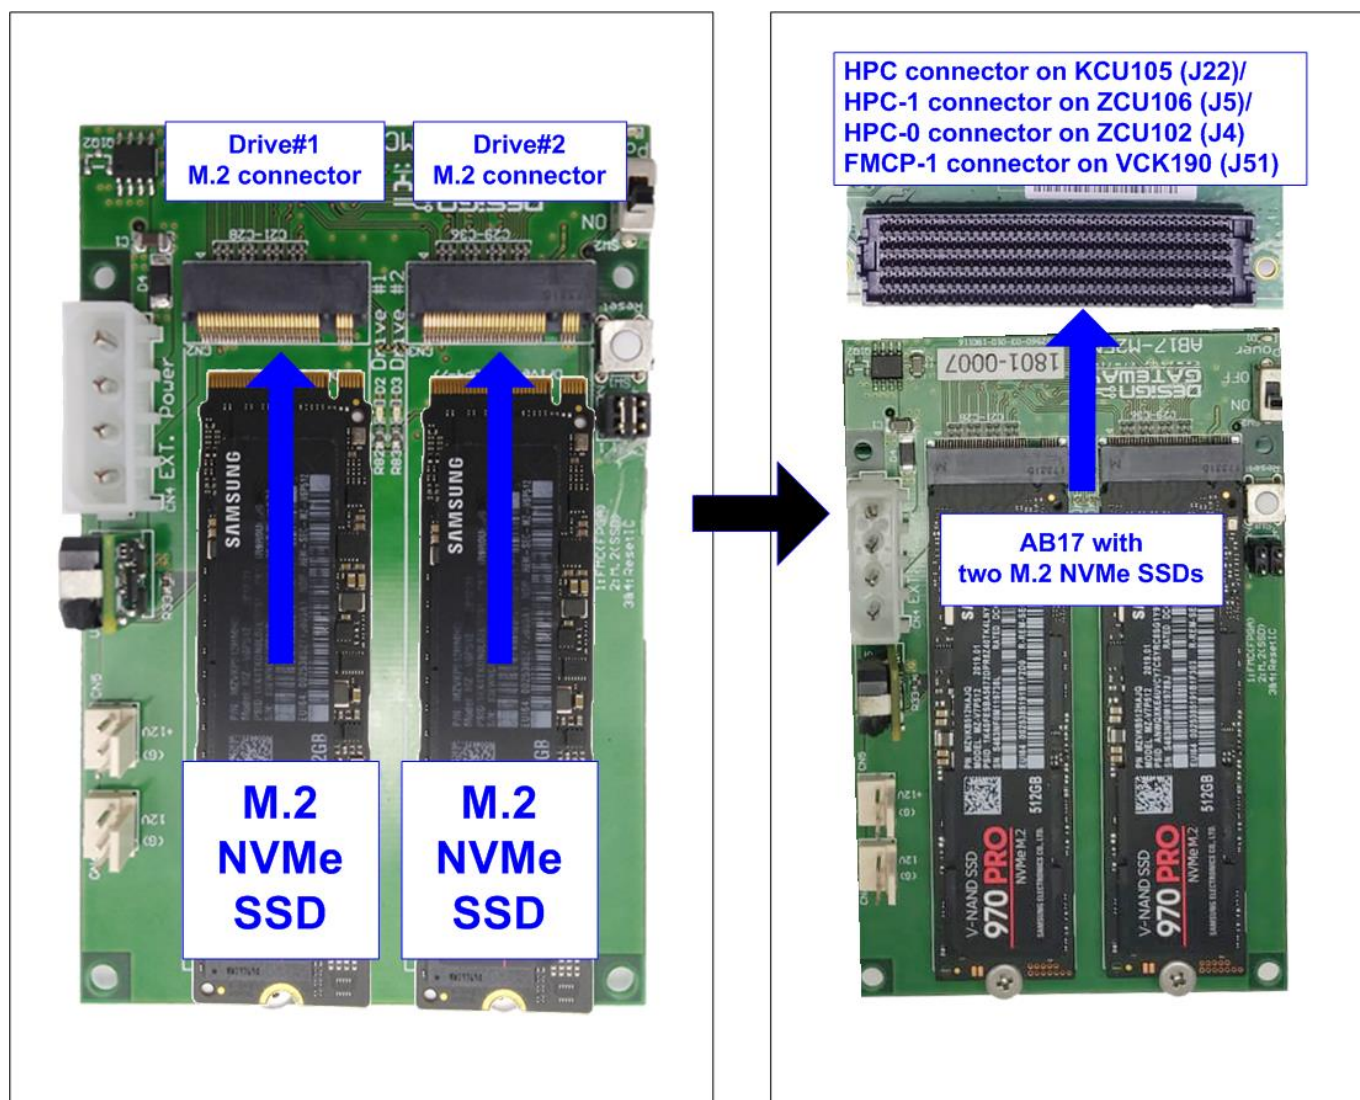

Figure 2-1 Connect M.2 NVMe SSDs to AB17-M2FMC
- a) For AB17, connect two M.2 NVMe SSDs to Drive#1 and #2 connector and then connect AB17-M2FMC to HPC on KCU105 (J22), HPC-1 on ZCU106 (J5), HPC-0 on ZCU102 (J4), or FMCP-1 on VCK190 (J51) as shown in Figure 2-1.